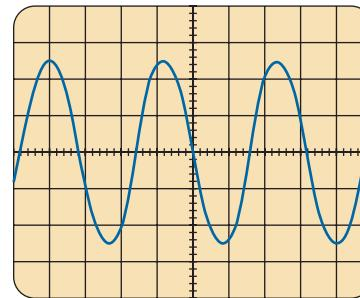

**FIG. 13.88**
4. For the waveform of Fig. 13.88: